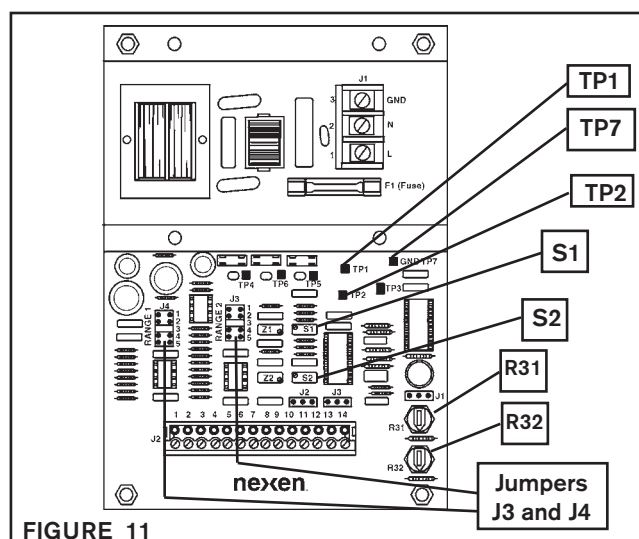

FIGURE 11
2. Connect a voltmeter to **TP7 (COM)** and **TP1** (See Figure 11).
3. Rotate **S1** clockwise to ____ VDC, increasing the reading at **TP1** (Example: Maximum Tension = 100 Lbs. with a 50 Lb. weight, adjust the output for 2.5 VDC) (See Figure 11).
4. Connect a voltmeter to **TP7 (COM)** and **TP2** (See Figure 11).
5. Rotate **S2** counterclockwise until the voltmeter reads ____ VDC at **TP2** (Example: Maximum Tension = 100 Lbs. with a 50 Lb. weight, adjust the output for 2.5VDC) (See Figure 11).